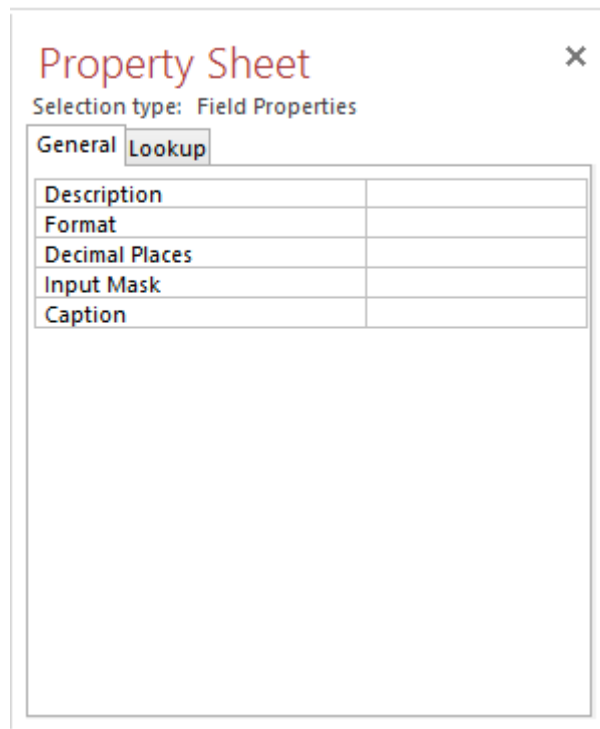

Figure 22: Field Property Sheet Window
7. Open the Field Properties Window: Next, you will set a query field property. To open the property sheet for a query field, position the mouse in the *UnitPrice* field and click **Query Tools | Design → Property Sheet** from the Show/Hide group. The Property Sheet for Field Properties appears on your screen (Figure 22).